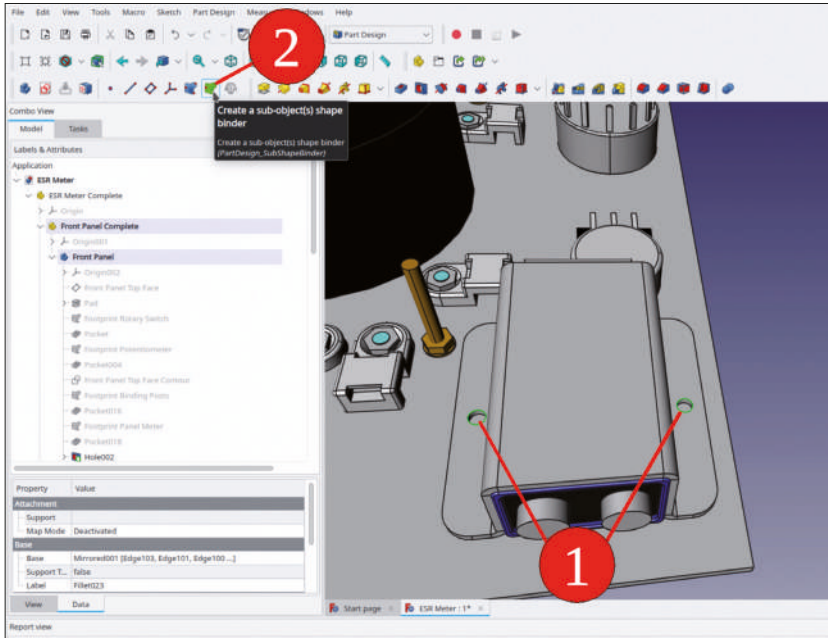

Figure 7-55
22. Hold down the CTRL key and, in the 3D view, mark both mounting hole edges on the battery holder (Figure 7-55). Then, click the green 'Create a sub object(s) shape binder' tool button.